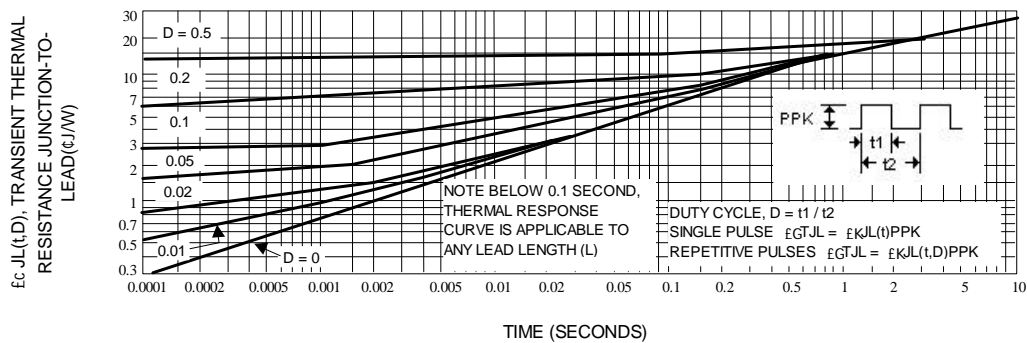
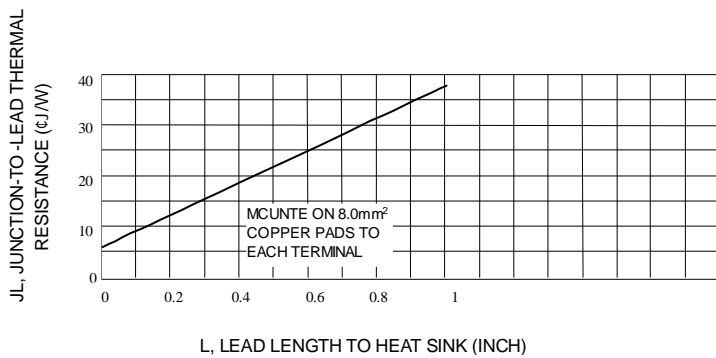
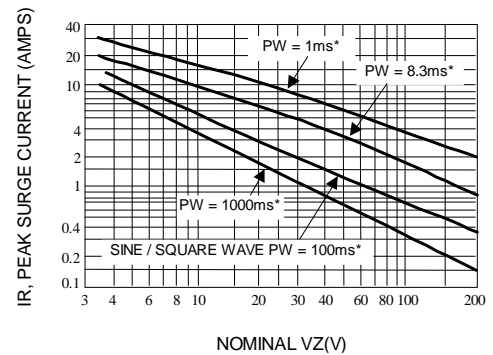
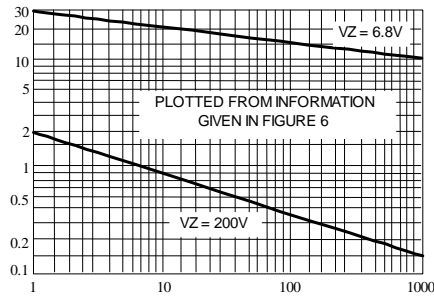

Fig. 3-TYPICAL THERMAL RESPONSE
Fig. 4-TYPICAL THERMAL RESISTANCE
Fig. 5-MAXIMUM NON-REPETITIVE SURGE CURRENT VERSUS NOMINAL ZENER VOLTAGE (SEE NOTE 3)
Fig. 6-PEAK SURGE CURRENT VERSUS PULSE WIDTH(SEE NOTE 3)
3. SURGE CURRENT ( $I_r$ ) - Surge current is specified as the maximum allowable peak, non-recurrent square-wave current with a pulse width, PW, of 8.3 ms. The data given in Figure 5 may be used to find the maximum surge current for a square wave of any pulse width between 1 ms and 1000ms by plotting the applicable points on logarithmic paper. Examples of this, using the 6.8v and 200V zeners, are shown in Figure 6. Mounting contact located as specified in Note 3. ( $T_A=25 \text{ }^\circ\text{C}$ ).
$\theta_{JT}$  is the increase in junction temperature above the lead temperature and may be found from Figure 3 for a train of power pulses or from Figure 4 for dc power.
Data of Figure 3 should not be used to compute surge capability. Surge limitations are given in Figure 5. They are lower than would be expected by considering only junction temperature, as current crowding effects cause temperatures to be extremely high in small spots resulting in device degradation should the limits of Figure 5 be exceeded.
\*\*\* Data of Figure 3 should not be used to compute surge capability. Surge limitations are given in Figure 5. They are lower than would be expected by considering only junction temperature, as current crowding effects cause temperatures to be extremely high in small spots resulting in device degradation should the limits of Figure. 5 be exceeded